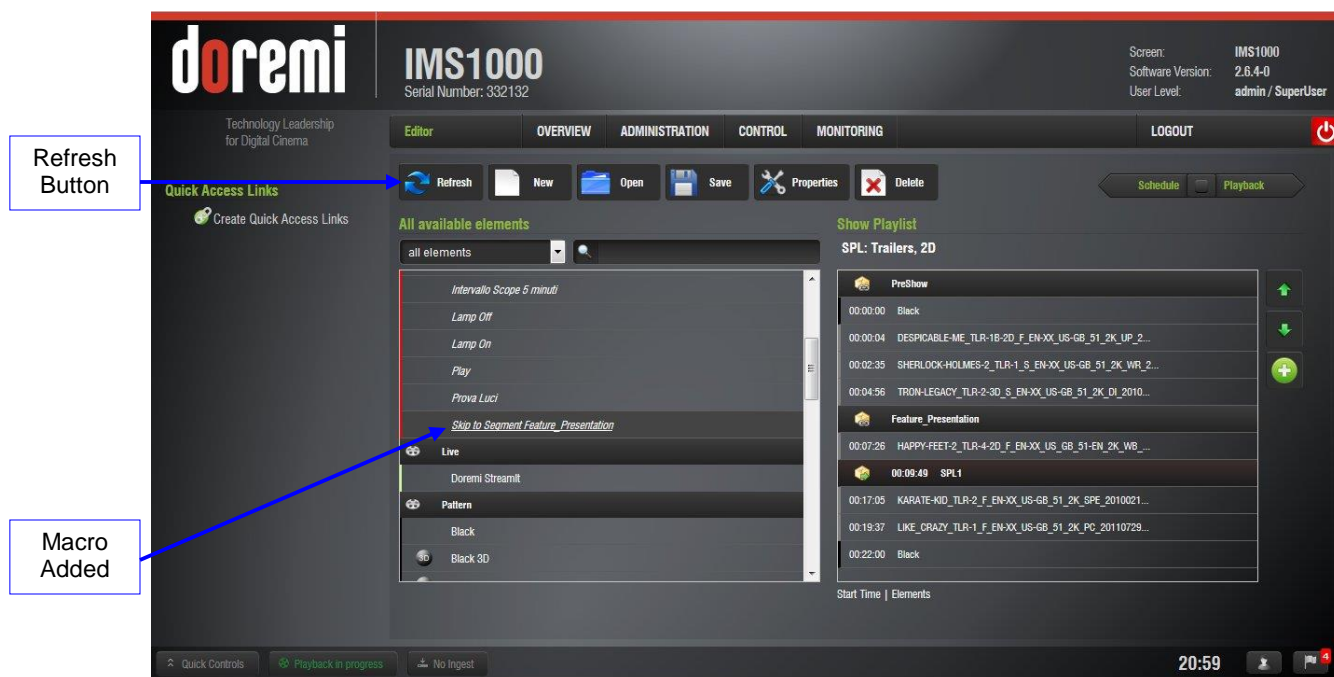

Figure 251: Macro Added
- The macro will also appear in Cinelister after the Refresh button has been clicked (Figure 251).